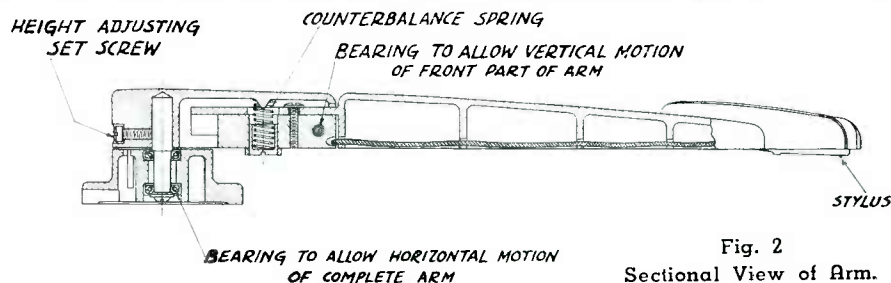

Fig. 2 Sectional View of Arm.
properly track an eccentric groove. In Fig. 2 an arm incorporating these desirable design features is shown. This arm has two pivoting points; one allowing vertical motion and another allowing horizontal motion. For the vertical motion, a spring was used to counterbalance the pickup instead of the conventional weight, since a counterweight adds undesirable inertia in the vertical plane. On the other hand, to obtain the necessary moment of inertia in the horizontal plane, the back portion of the arm, which does not participate in the vertical motion of the arm, was made heavy. On both of the pickups being discussed, the horizontal arm resonance occurs between 20 and 25 cycles per second.
**I**NSTANTANEOUS recording has advanced a great deal during the last few years. Figure 1 shows the overall response characteristics of the most popular cutter and pickup of only four years ago. It can be seen that the peak was fairly strong, and that the response dropped off very rapidly above 3,000 cycles. Figure 2 shows the overall response of a cutter and a pickup of today. The real advance which has been made could be determined by adding the cutter and reproducer characteristics. Of course, in doing this we assume that the record coating characteristics are ideal. So far as we know, the ideal record coating material has yet to be found, and in view of the tremendous increase in what modern equipment is demanding of record coatings, it may be a good time to examine critically the record materials available today to see how good a job they can do for us, and to consider wherein they are most deficient so that when, from time to time new materials are introduced, we will know what to look for. At the same time we can see what our present coating materials can do when still further improvement in equipment places still greater demand on the record. This should serve to give the broadcaster some understanding of the problems involved. When he wants a different disc, he will understand what he gains and what he loses by such a change. Every broadcaster has his own idea of what he would like in a disc. He usually does not have much idea of what he would have to lose in obtaining that objective, for that information hitherto has been a closely guarded secret.